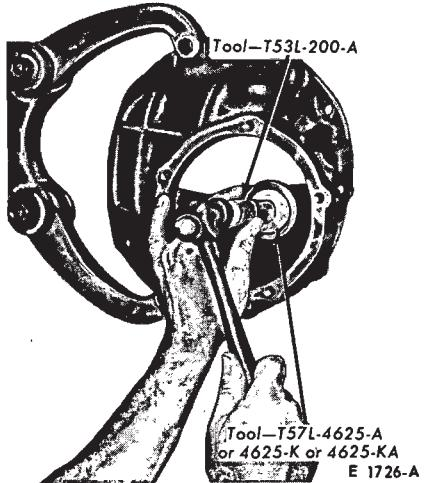

FIG. 35—Installing Pilot Bearing
1. Drive the new pilot bearing inward until it bottoms, as shown in Fig. 35.
2. Using the same tool indicated in Fig. 35, install the new pilot bearing retainer with the concave side up.